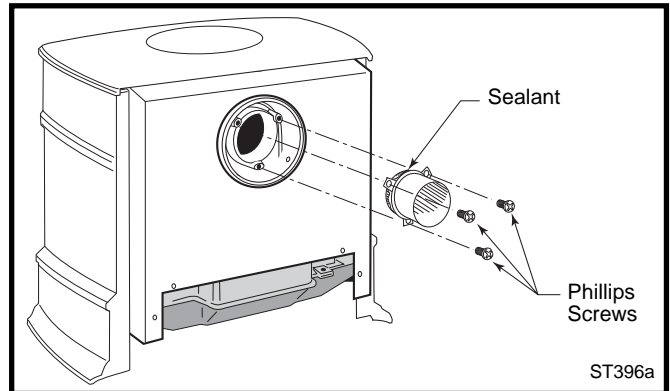

Fig. 16 Apply sealant to the starter pipe, and fasten to stove with Phillips screws.
- Run a bead of sealant beneath the pipe bead and attach to the stove using three 1/4-20 x 3/8" phillips screws provided in the parts bag. (Fig. 16)